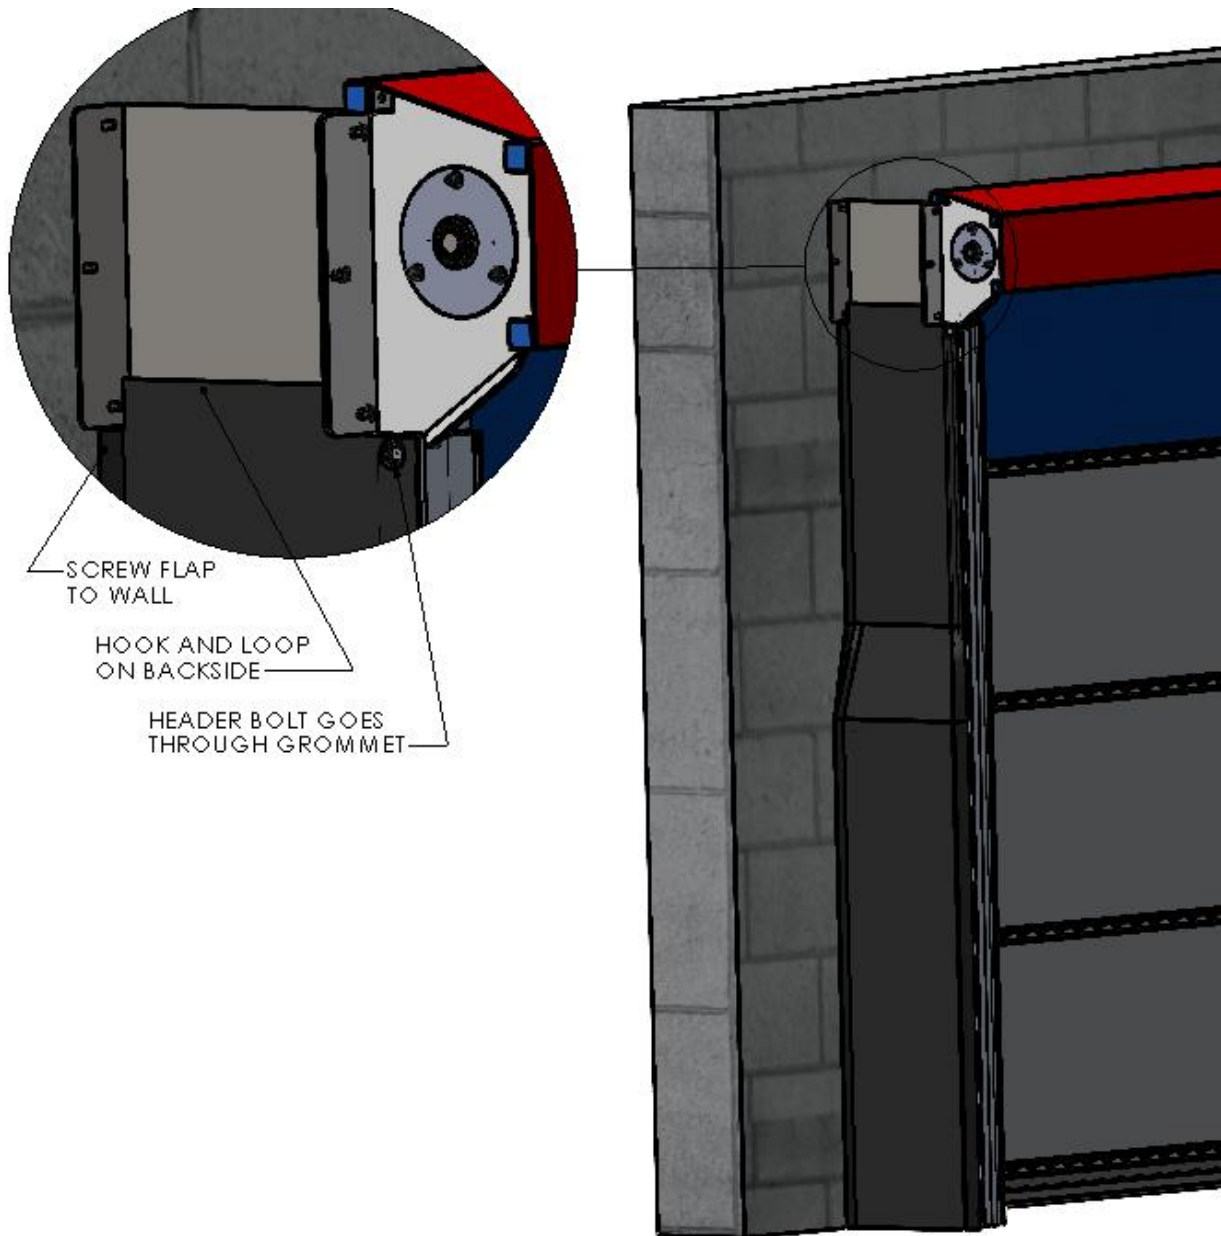

Figure 7 SECURE SIDE SEAL
1. Remove the nut and washer from the Track Transition Bracket, then re-install them over the Side Seal Grommet. (Figure 7 SECURE SIDE SEAL)
2. Secure the top edge of the Side Seal to the Header Projection Brackets via the hook-and-loop strips provided in the hardware bag. (Figure 7 SECURE SIDE SEAL)
3. Fold the Side Seal Material to flatten it against the wall, then secure it through the material into the wall with appropriate screws. (Figure 7 SECURE SIDE SEAL)